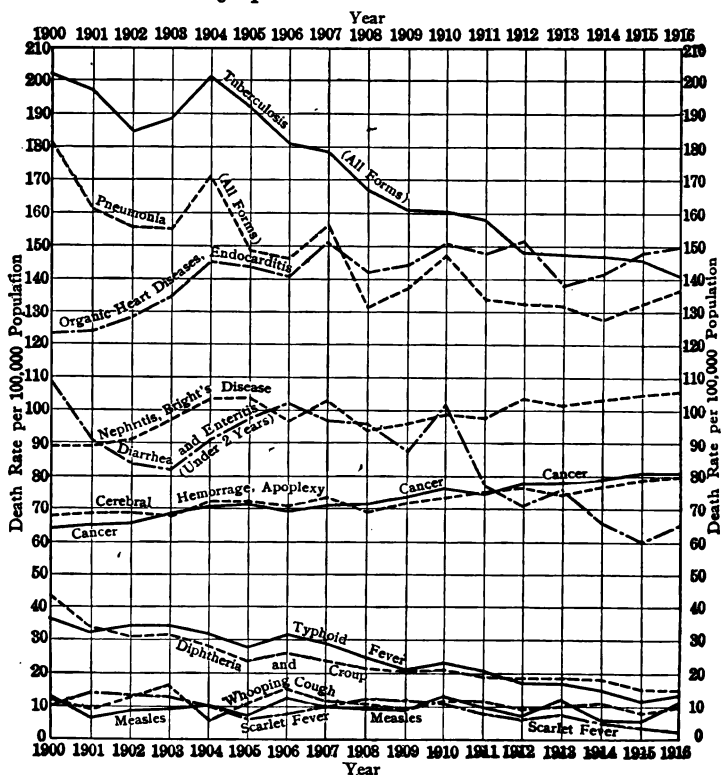

FIG. 155. — Death rates from important causes of death.
**Directions.** 1. In figure 155 notice which three diseases cause the greatest number of deaths. Which five the least.